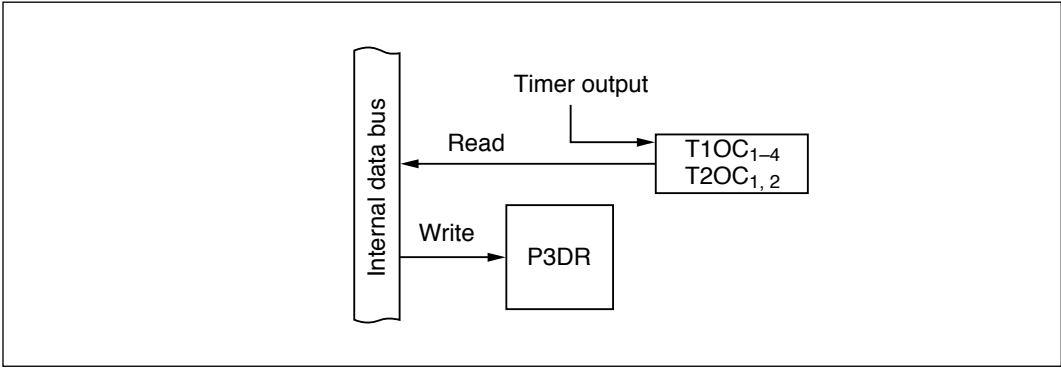

Figure 9-19 Timer Output Pins (Modes 1 to 7)
(3) Timer Output Pins (Modes 1 to 7): Figure 9-19 shows a block diagram illustrating the timer output function. Table 9-13 indicates register read/write data. When a pin in port 3 is used for timer output, the setting in the port 3 data direction register (P3DDR) is ignored. The value in the port 3 data register (P3DR) has no effect on the timer output. P3DR can be read to monitor the timer output level (T1OC₁ to T1OC₄, T2OC₁, T2OC₂).